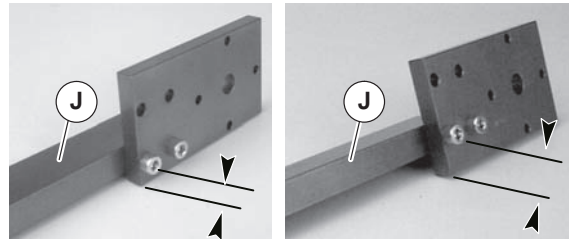

Figure 13
- Check gearmotor support assembly (Figure 13, item J) setup: 2100 (left) and 4100 or 6200 (right).